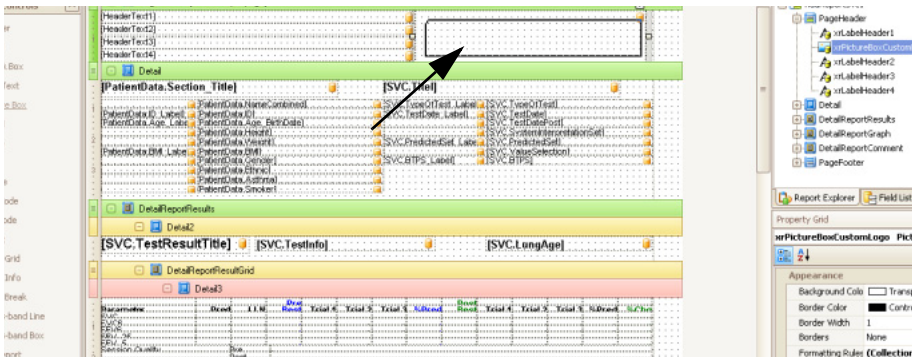

Fig. 10-5 Positioning the frame
- Insert the frame in the appropriate position (Fig. 10-5).